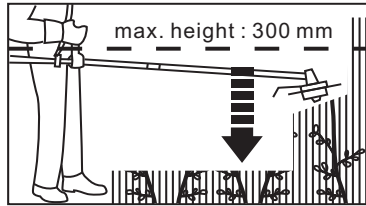

Fig. 24
4. Never hold the cutting head higher than your hip; the higher you hold the cutting head will increase the risk of objects being thrown. (See Fig. 24)